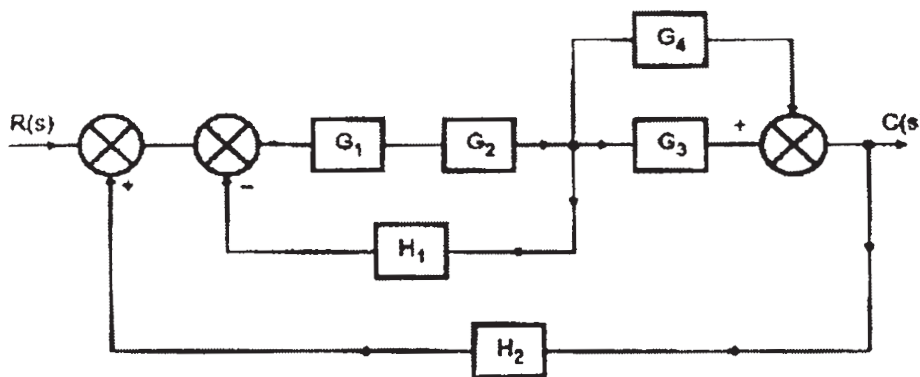

Fig. No. 3
- b) Derive the transfer function of the given system using block diagram reduction technique reference Figure No. 3.